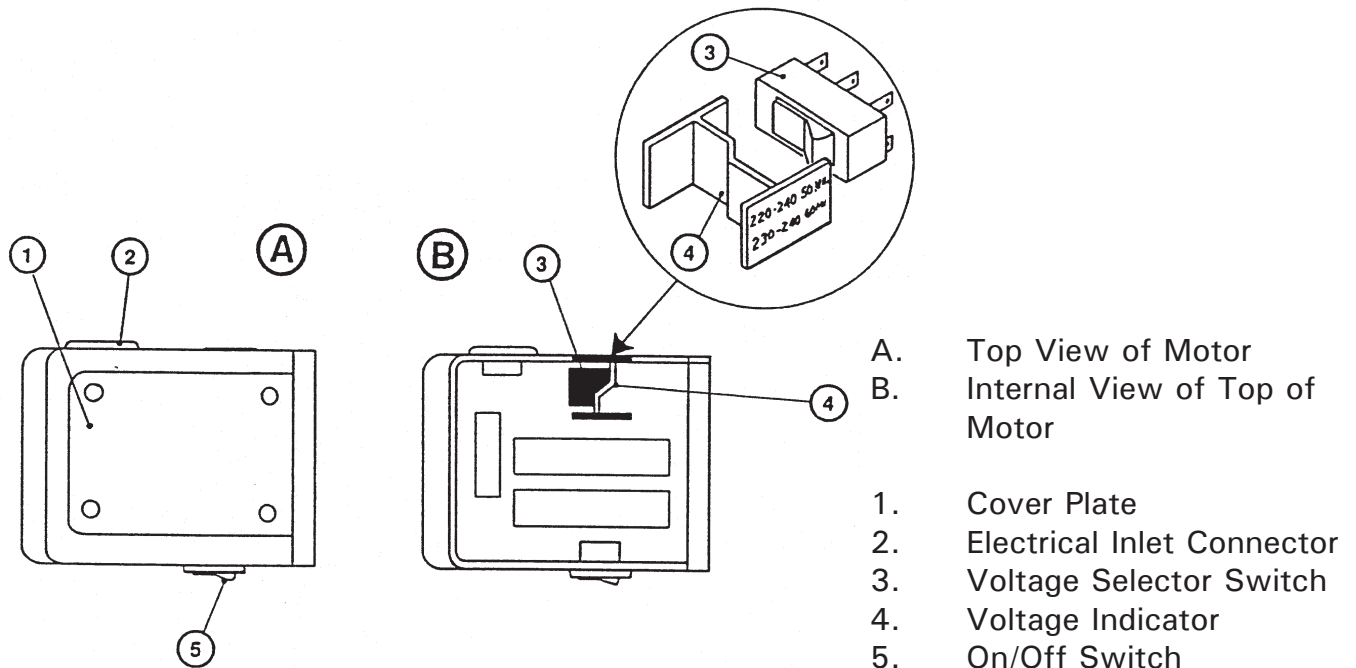

Figure 2 - Motor Voltage Configuration
1. Ensure that the on/off switch on the motor (Figure 2, item 5) is in the 'off' position.
2. Insert the molded IEC connector at the end of the cable into the electrical inlet-connector on the motor (Figure 2, item 2).